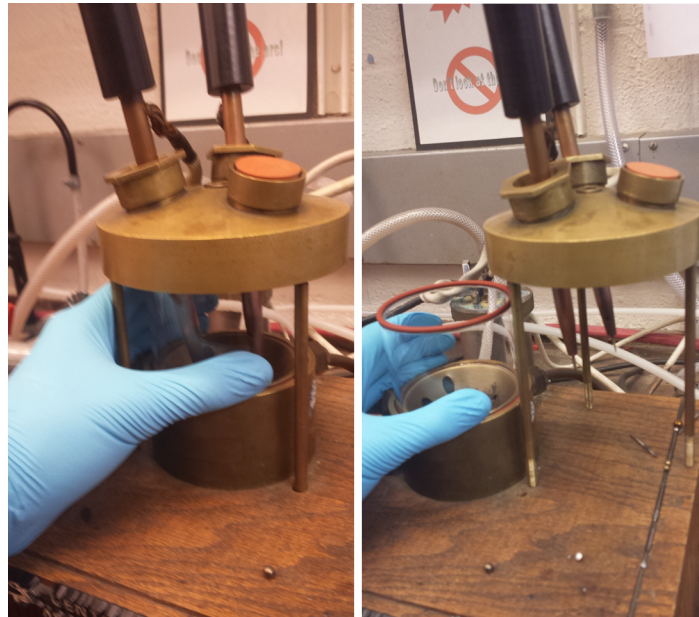

Figure 8: Removing the top from the arc furnace.
**Step 3:** Take the top off, hold the quartz window and lift off (Fig. 8). Be very careful not to knock the quartz window. Place the window to the side in a safe place.